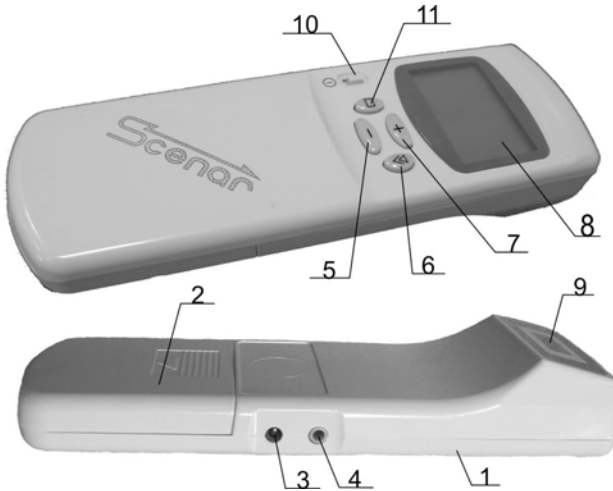

Fig. 1
4.1 The device is illustrated in Fig. 1. The device has an upper cover 1 with a screen 8, case with a built-in electrode 9 and a battery cover 2. All components except for the batteries are located on the printed circuit board inside the device's case.